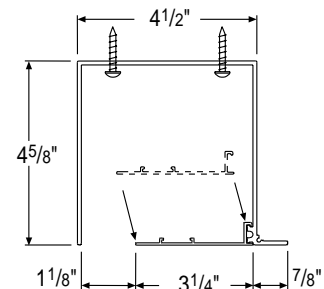

Figure 5
- ① Drill holes through pocket for wall or ceiling mount. Attach using appropriate fasteners.
- ② Attach brackets (if necessary) according to installation: wall, jamb, or ceiling (see "Mounting Brackets or Endcaps" section). Install roller assembly (see "Shade Assembly" section).
- ④ Put removable closure in place (see Fig. 5).